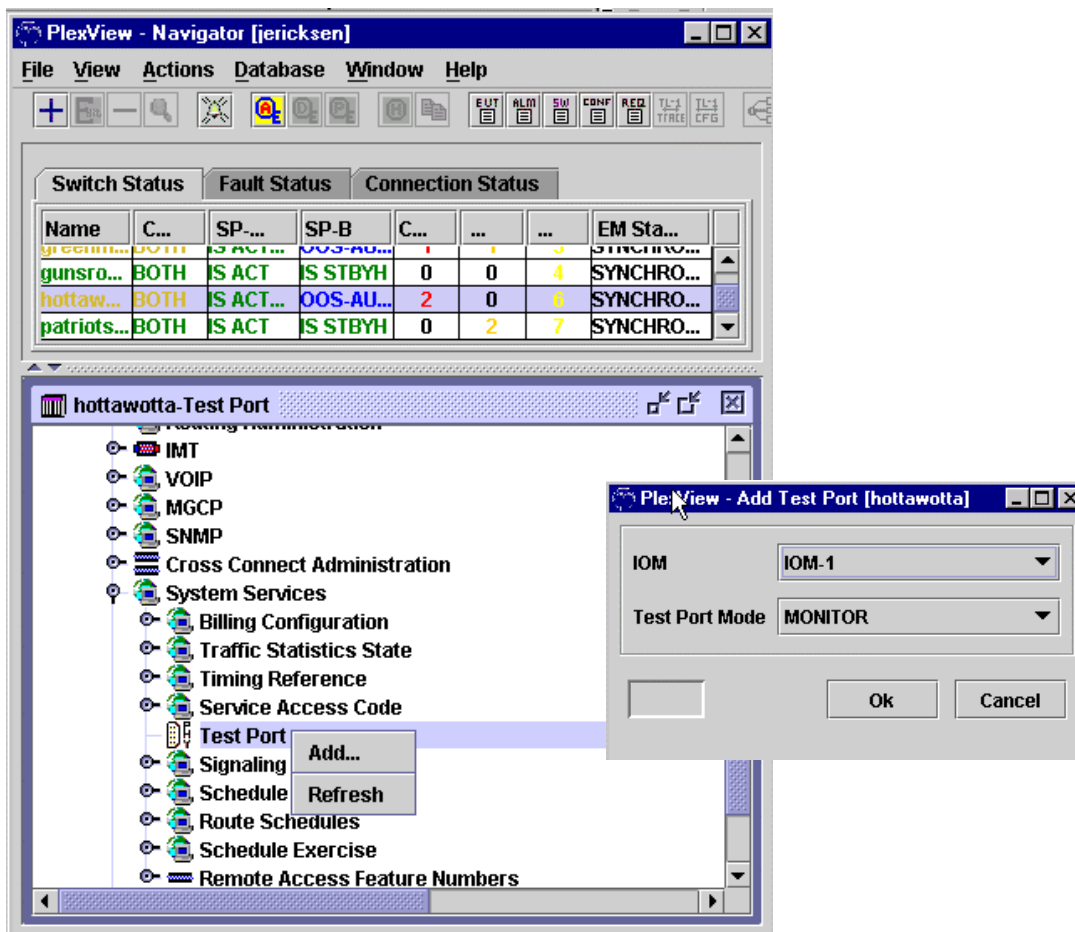

Figure 1. Adding a Test Port
3. To select and configure the test ports, double-click the switch to select it for the main panel and then right-click the switch name. Double-click System Services and then right-click *Test Port*. Select *Add*. See Figure 1.